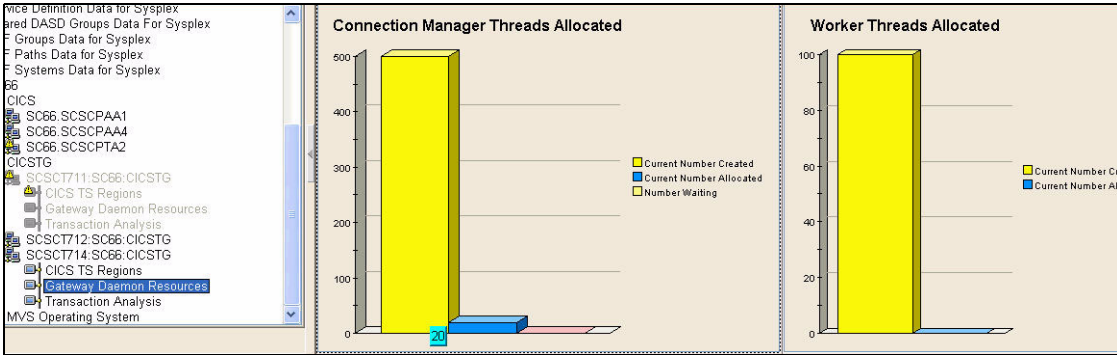

Figure 7-14 Connection Manager threads in use by SCST714
- 3. The number of Connection Manager threads allocated is the sum of the two values (20) highlighted by the previous test (see Figure 7-14).